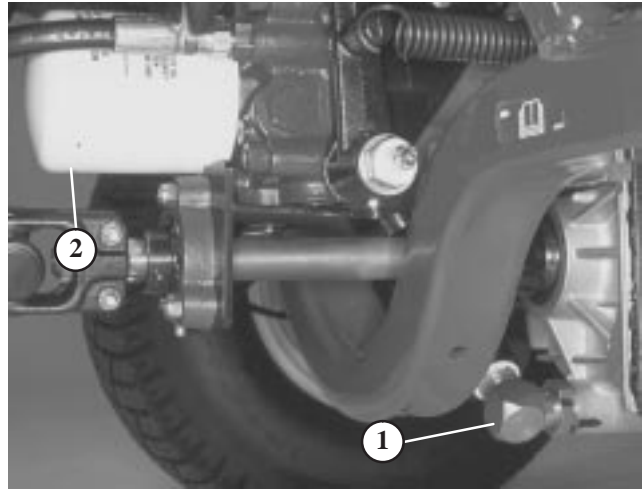

Figure 68
2. Clean area around suction line on bottom of transmission (Fig. 68). Place drain pan under line.
2. Clean area around filter mounting area (Fig. 68). Place drain pan under filter and remove filter.